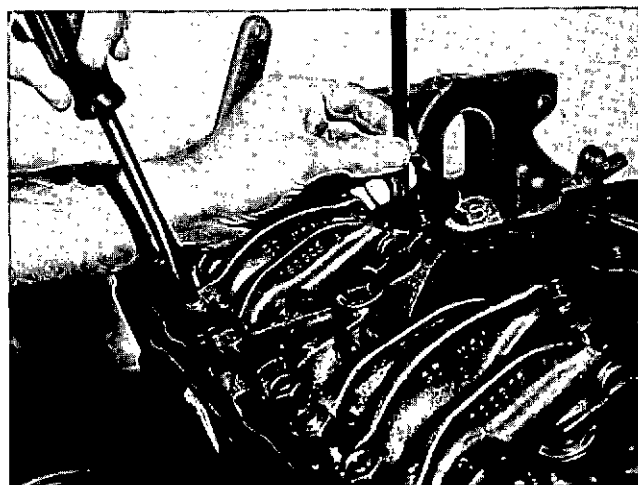

Fig. 14-1-111, V414193. Valve adjustment
4. Use a feeler gauge of proper thickness for valve being adjusted. Insert between crosshead and lever and turn adjusting screws down until lever just touches feeler gauge. Fig. 14-1-111.